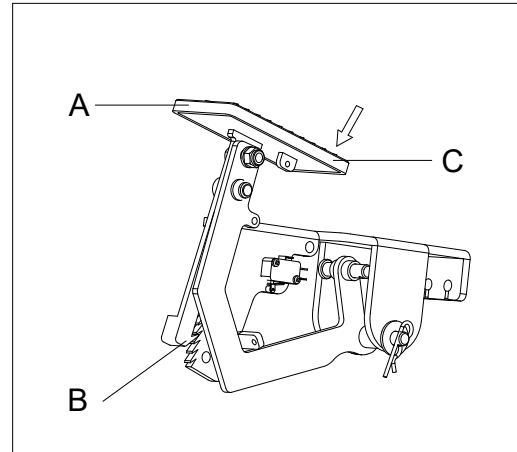

Figure 11
1. Engage the parking brake by pressing on the front of the pedal (A, Figure 11) and engaging the lever (B, Figure 11).
2. Disengage the parking brake by pressing on the back of the pedal (C, Figure 11) and releasing it.